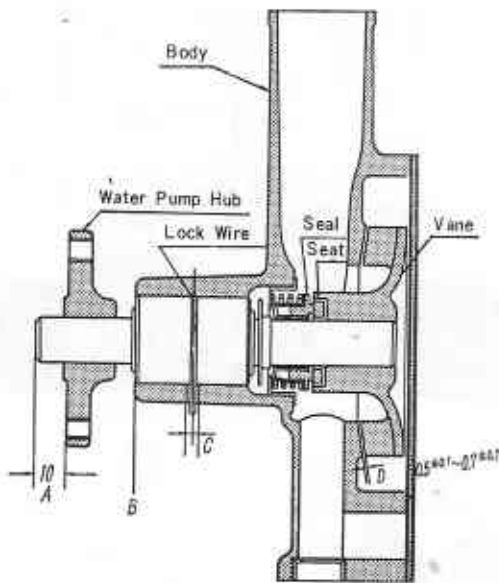

Fig. CO-6 Assembling Water Pump
NOTE: Take care not to scratch the shaft, and press in the shaft until the end face of the bearing outer race is flush with the body as shown in Fig. CO-6, and the center of the lock wire groove is in line with that of the body slot as indicated by (C).
5. Press vane into the body, adjusting the clearance (D) in Fig. CO-6 to 0.5 to 0.7 mm (0.019 to 0.028 in.), with a pressing force of above 700kg (1542 lbs).
6. Press in hub with a pressing force of above 700kg (1542 lbs) taking care not to disturb the dimension (D).